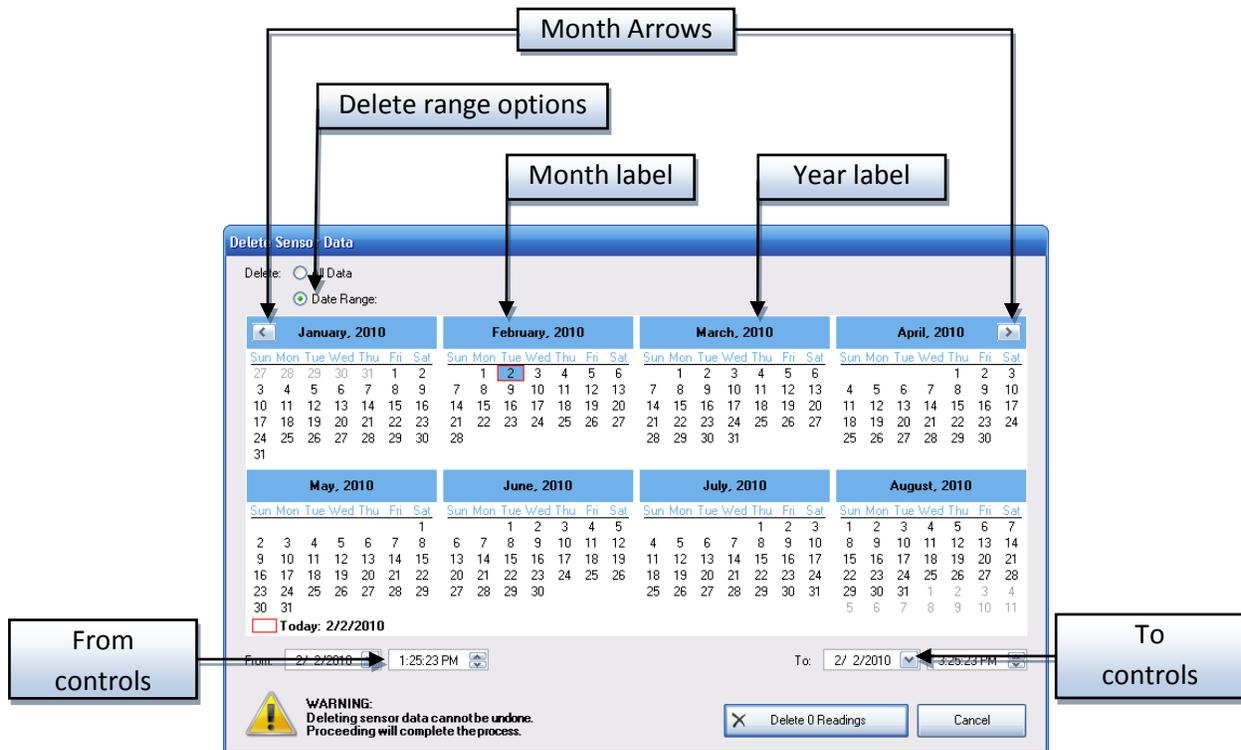

Figure 7-5 - Delete Sensor Data dialog
3. Press DEL on the keyboard **or** right-click on one of the sensors and choose *Delete → Data...* This will present the *Delete Sensor Data* dialog (see FIGURE 7-5)
- a. All data (click the *All Data* radio button in the delete range options in FIGURE 7-5)
- b. Date range (click the *Date Range* radio button in the delete range options in FIGURE 7-5)
1. Navigate to the date range's start year by clicking on one of the year labels (see FIGURE 7-5) and selecting the date range's start year from the drop-down box
2. Navigate to the date range's start month using the month arrows or by clicking on one of the month labels (see FIGURE 7-5) and selecting the start month from the drop-down box
1. Enter the range's start date/time in the *From controls* (see FIGURE 7-5) using the keyboard and calendar drop-down
2. Enter the range's end date/time in the *To controls* (see Figure 7-5) using the keyboard and calendar drop-down